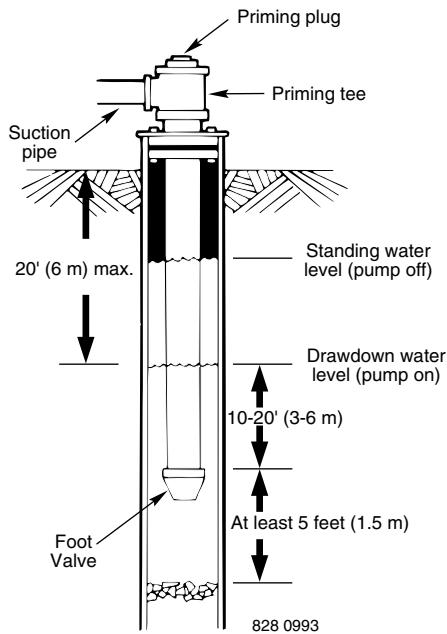

Figure 1: Cased/Dug Well Installation
5. When using a foot valve, a priming tee and plug as shown in Figure 1 are recommended.